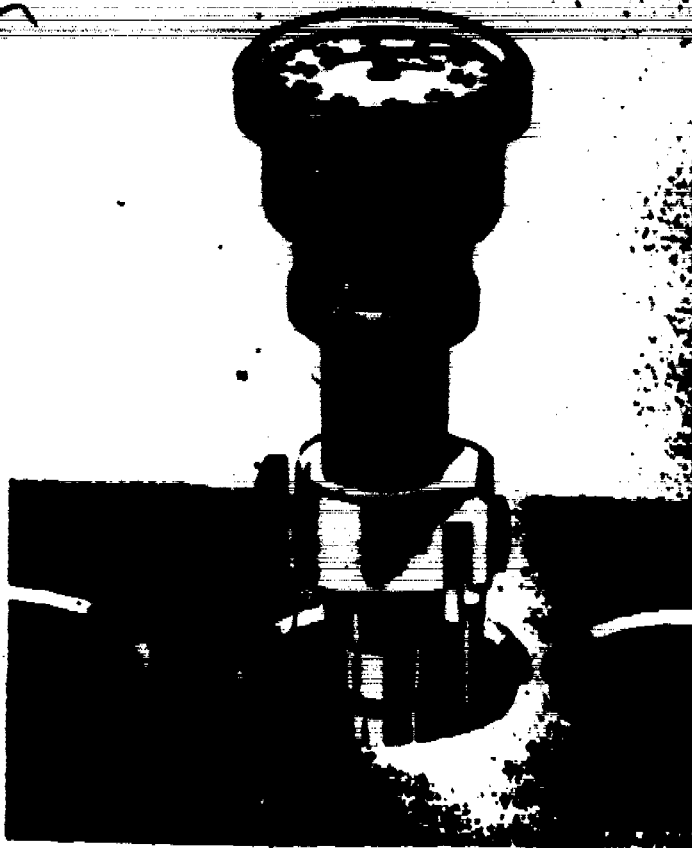

Fig. 70 - Checking Seat Run-Out.
5. Check the valve seat for concentricity or run-out. Use dial indicator as shown in Fig. 70. Seat run-out should not exceed limits shown in "Specifications".